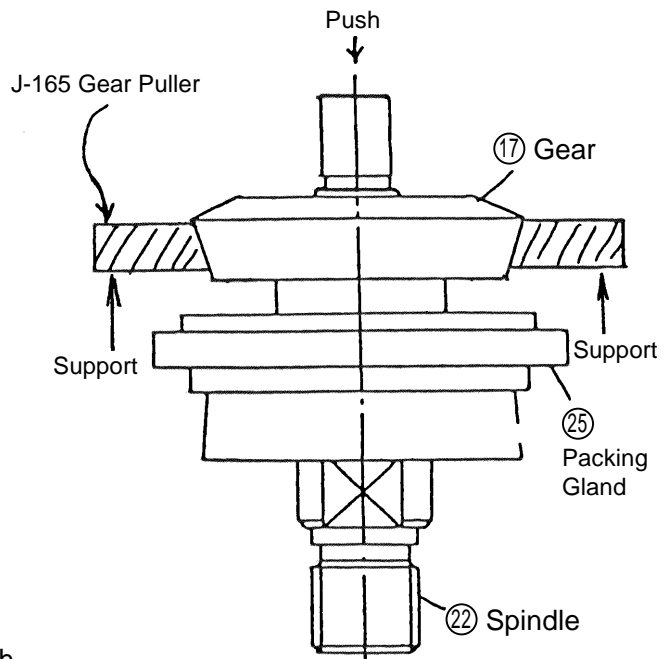

Fig. 5
As illustrated in Fig. 5, support the Gear (17) with a J-165 Gear Puller (Special Repair Tools), and push down on the Spindle (22) with a hand press to remove the Gear (17).